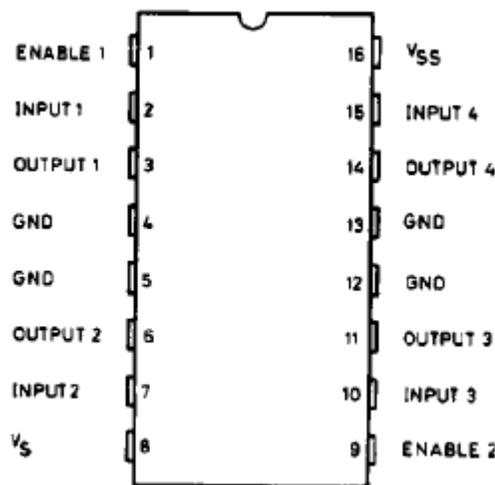

Figure 6.1 Pin Diagram of L293D
- The pin diagram of L293D is shown in figure 6.1.